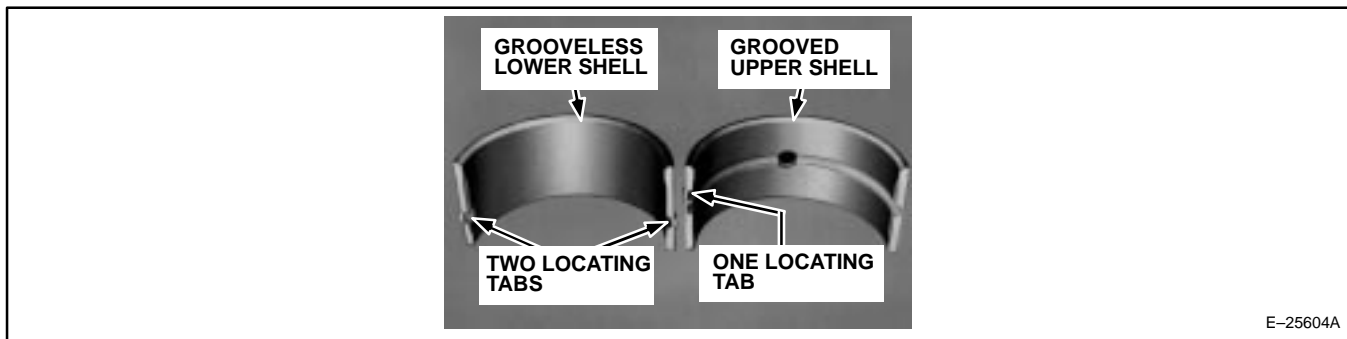

Figure 41. Main Bearing Shells.
Diesel engines with EFI have grooveless main bearings in the LOWER positions and grooved main bearings in the UPPER positions. Each grooved bearing has ONE (1) locating tab to locate it in its correct position; each grooveless bearing has TWO (2) locating tabs to prevent inadvertent installation in the upper position (Figure 41).